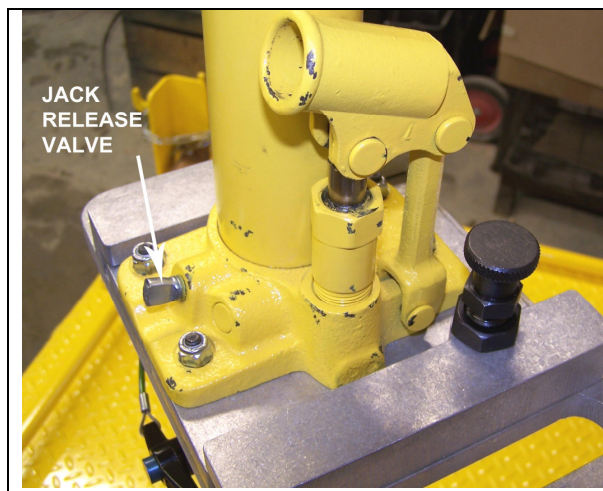

FIGURE 3
6. With the jack and retaining sleeve fully retracted, position the lifter directly under the locomotive coupler pin. Close the jack release valve by turning it clockwise (Figure 3).
12. Slowly turn the jack release valve counter-clockwise to gradually release hydraulic pressure and lower the coupler pin (Figure 3). Stop lowering the jack if the pin does not release out of the coupler. Move the coupler as necessary to allow the pin to release. Continue lowering the pin until it is completely clear of the draft coupler and draft arm.
1. Close the jack release valve by turning it clockwise (Figure 3). Operate the jack using the provided handle to move the coupler pin upward into the draft arm and coupler.
5. When the retaining bar has been inserted, open the jack release valve by turning it counter-clockwise (Figure 3). Fully retract the jack cylinder and retaining sleeve. It may be necessary to apply pressure to the pusher block to get the jack to fully retract.